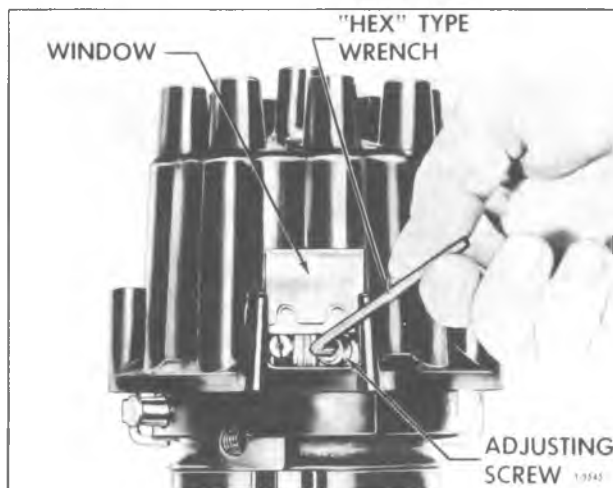

Figure 11—Setting Dwell Angle (V8 Engine) (Typical)
1. With engine running at idle and operating temperature normalized, raise window in distributor cap and insert a "hex" type wrench into head of adjusting screw as shown in figure 11.
b. Turn adjusting screw (fig. 11) to set dwell angle to 30 degrees.
c. Turn adjusting screw (fig. 11) clockwise until lamp lights, then give wrench  $\frac{1}{2}$  turn in opposite direction (counterclockwise) to obtain proper dwell angle.